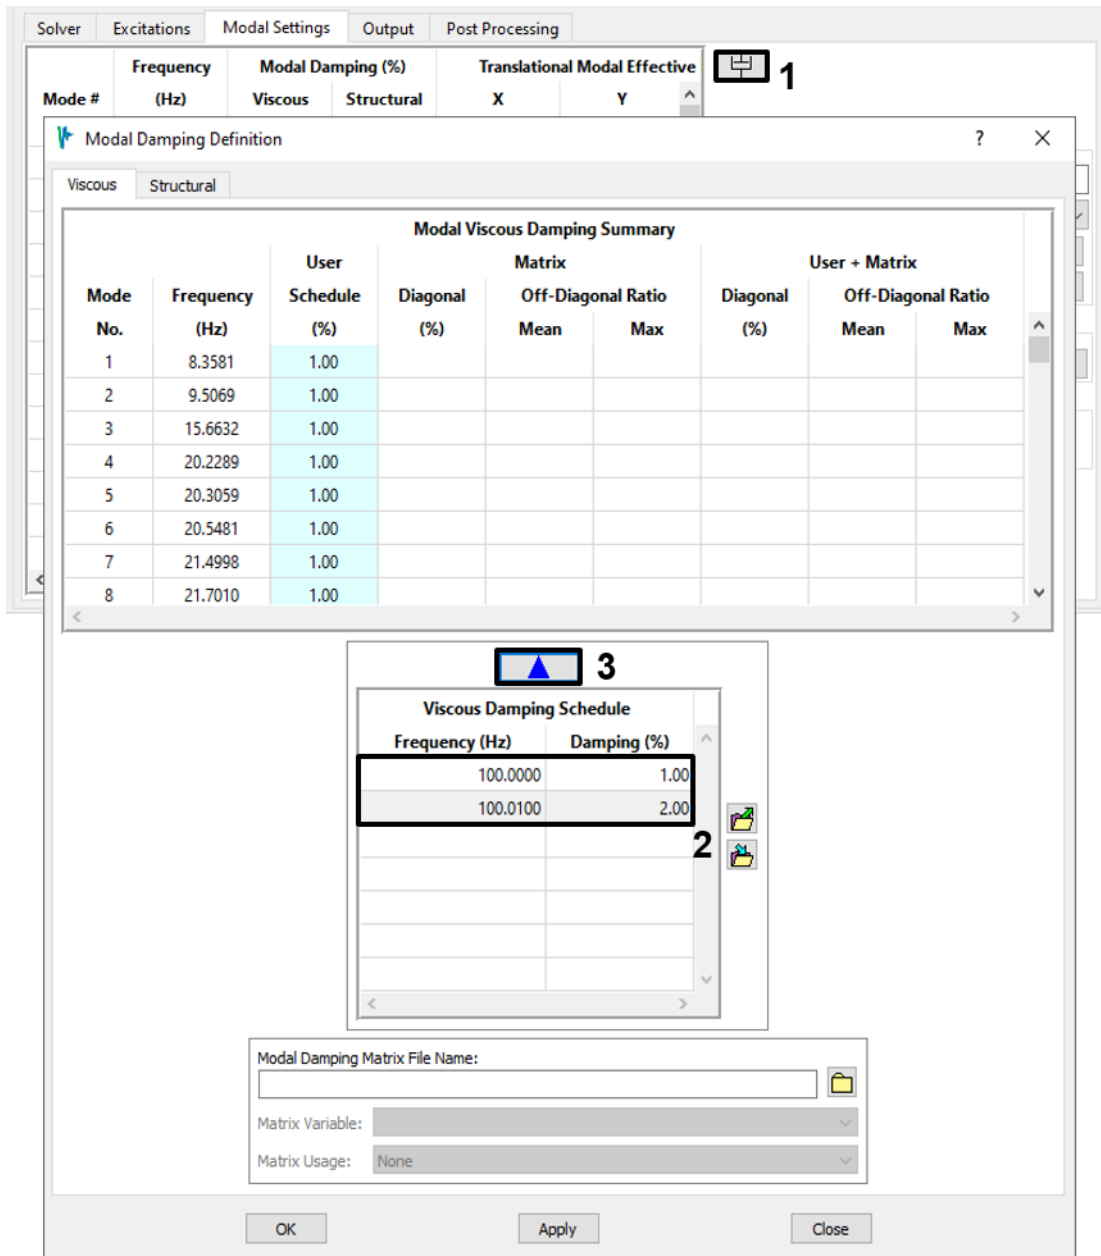

Figure 4-43. Assign damping via the schedule; export the schedule to a text file for later use.
- a. From the *Modal Settings* tab, bring up the *Modal Damping Definition* dialog (Figure 4-43).